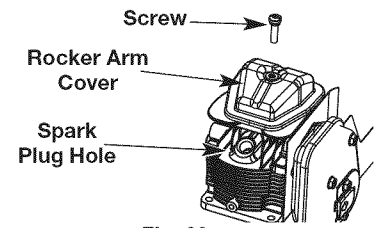

Fig. 30
5. Clean dirt from around the rocker arm cover. Remove the screw holding the rocker arm cover with a large flat blade screwdriver or Torx T-25 bit (Fig. 30). Remove the rocker arm cover and gasket.
- The piston is at the top of its travel. This should be done by looking into the spark plug hole. (Fig. 30)